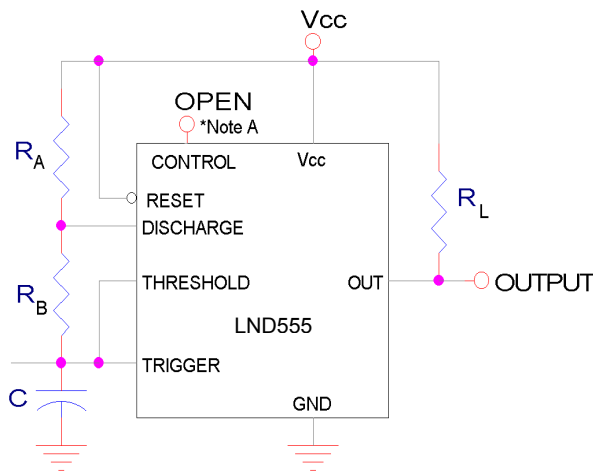

Figure 1 :Circuit for Astable Operation
1. This parameter influences the maximum value of the timing resistors  $R_A$  and  $R_B$  in the circuit on Figure 1. For example, when  $V_{cc}=5V$ , the maximum value is  $R=R_A+R_B=3.4\text{ M}\Omega$ , and  $V_{cc}=15V$ , the maximum value is  $10M\Omega$ .
5. Values specified are for a device in an astable circuit similar to Figure.1, with component values as follow:  $R_A, R_B=1K\Omega$  to  $100K\Omega$ ,  $C=0.1\mu F$ .